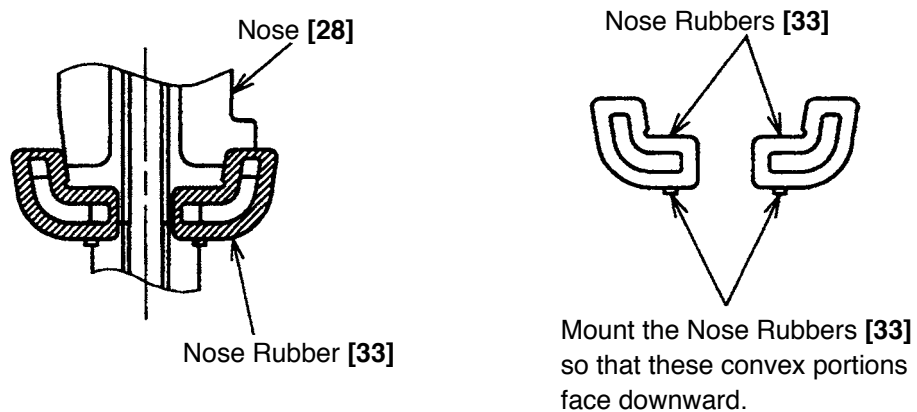

Fig. 21
- Be careful of the mounting direction of the Nose Rubber [33]. As shown in Fig. 21, mount the two Nose Rubbers [33] so that their convex portions face downward.